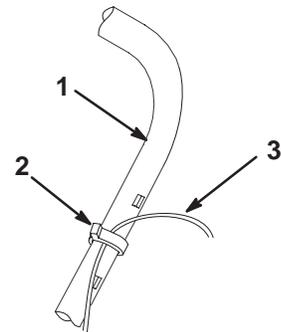

Figure 6
1. Cut the plastic tie that secures the control cable to the handle (Fig. 6).